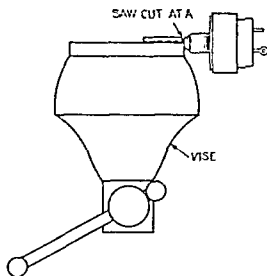

FIG. 13-14. Cutting the volume-control shaft for a push-on knob.
- b. Clamp in vise with mark showing. Cut vertically at A with a hack saw, as shown in Fig. 13-14. Stop cutting before reaching the horizontal line. File the material away, almost down to the line with the file held horizontally.